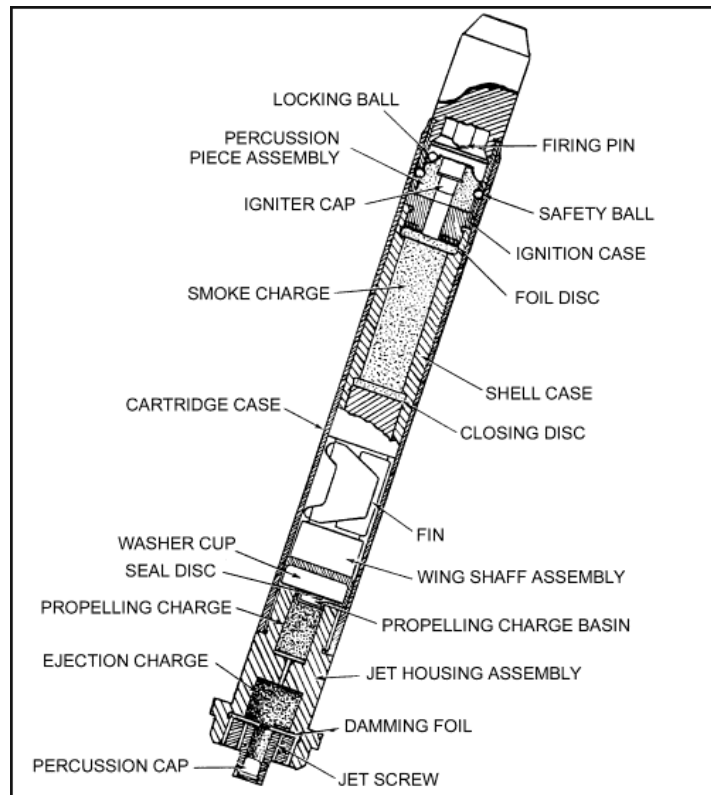
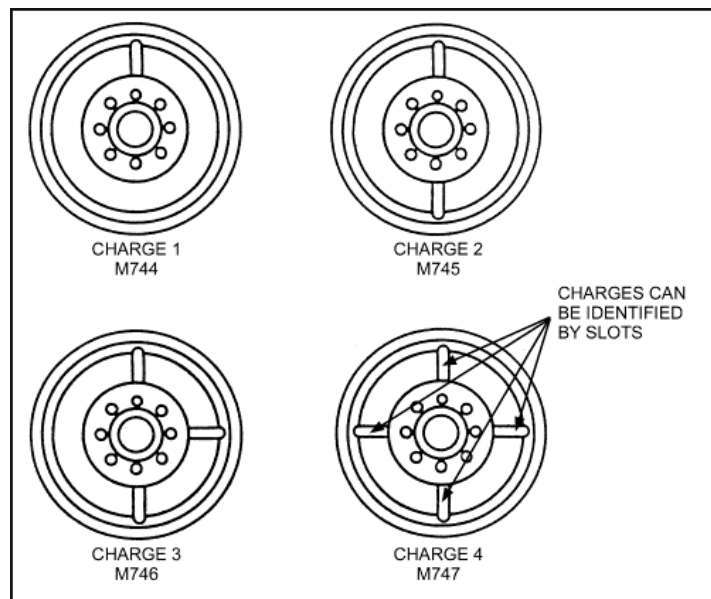

Figure A-14. The 22-mm subcaliber cartridge cross-section.
Figure A-15. Base of subcaliber cartridges--charge one through four.
(2) When not loaded with a subcaliber cartridge, the sabot can be used as a dummy round for crew drill or the squad leader can "load" it with an expended cartridge case to induce a "misfire." The sabot can be reloaded and fired repeatedly for training. It is stored without the subcaliber cartridge in a packing box containing three sabot devices.
b. The 22-mm Subcaliber Cartridge. The 22-mm subcaliber cartridges (Figure A-14) are boxed and issued by charge: M744, charge one; M745, charge two; M746, charge three; M747, charge four. The charges can readily be identified day or night by the number of slots in the base of the subcaliber cartridge case (Figure A-15).